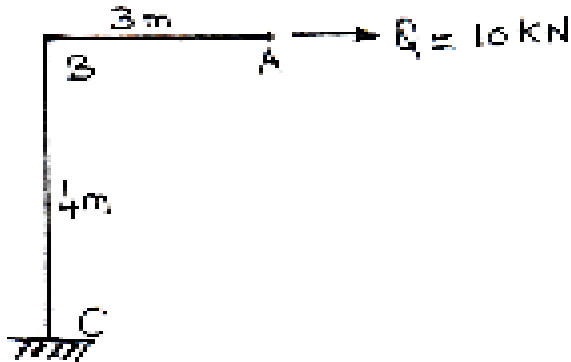

Fig. 4
- c) A bend ABC is shown in Fig. 4. Find horizontal deflection of free end 'A', under the load, Q applied as shown in Fig. Assume constant EI for member AB and BC.